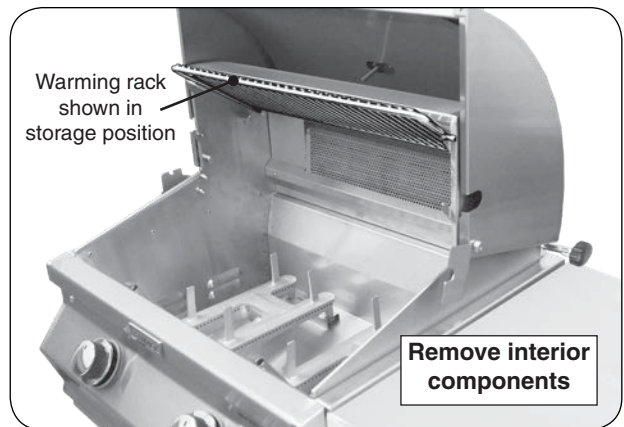

Fig. 28-1 Prepare grill for rotissing
1. Set the warming rack to storage position, remove the backburner cover and cooking grids (see Fig. 28-1).